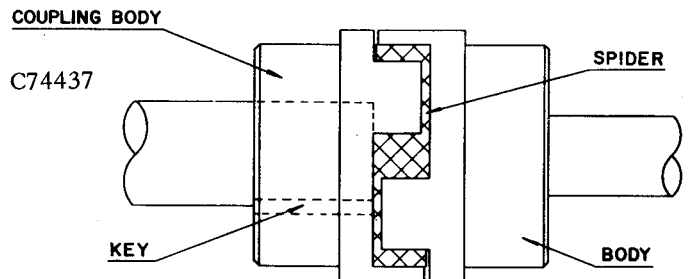

FIGURE 1-5. — COUPLING
**COUPLING** (Figure 1-5) — The motor and compressor are direct connected by a spider cushion-type flexible coupling. The coupling does not require lubrication.